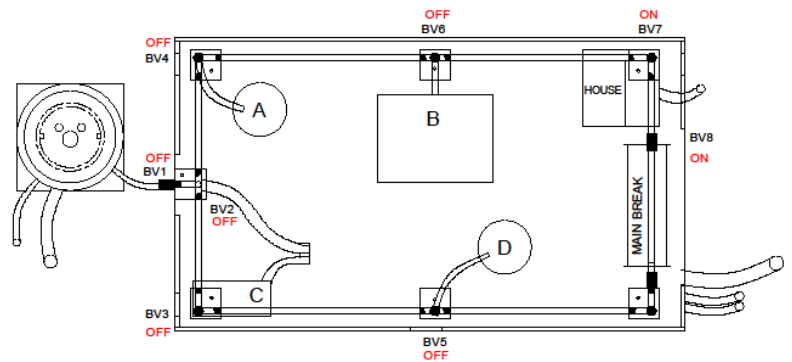

Figure 3. Ball Valve Orientation at Start
- 9) Make sure each ball valve is in its proper position (Figure 3)